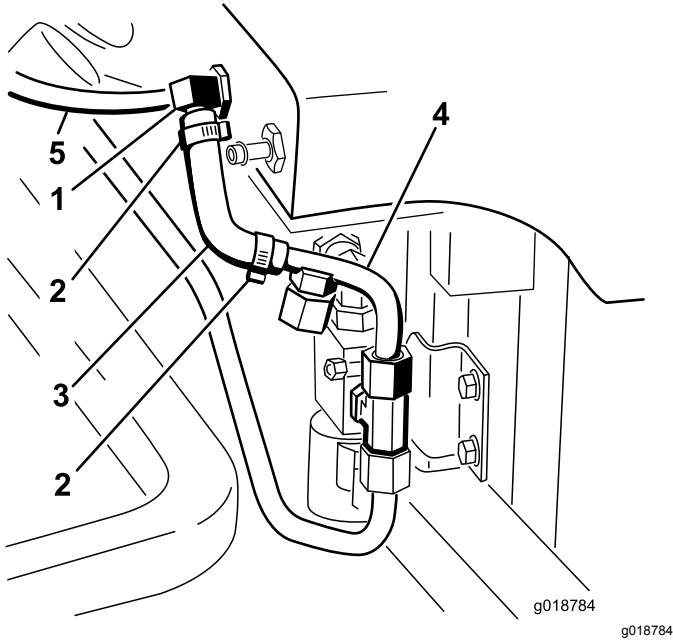

Figure 32
11. Slide the 2 small hose clamps onto the small molded hydraulic hose (Figure 32).
12. Install the long leg of the molded hose onto the 90-degree tee in the hydraulic tank (Figure 32).
13. Install the short leg of the molded hose onto the barb end of hydraulic line number 4 (Figure 32).
15. Loosely install the hydraulic line (hose) number 5 to the small 90-degree tee (Figure 32).